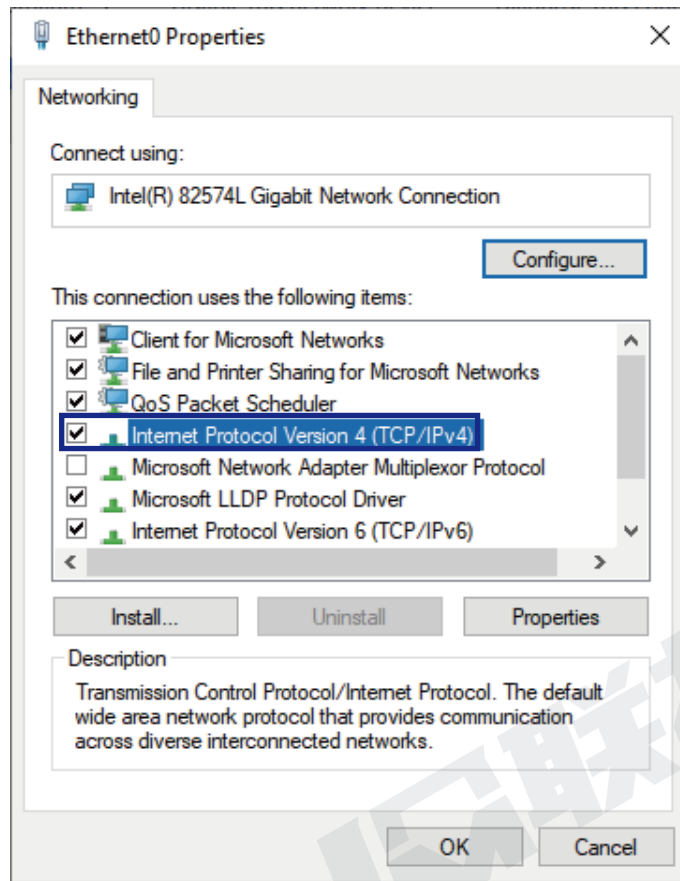

Figure 8-21
Step 3: Right click and hit “Properties” and it pop up the windows and double click “Internet Protocol Version 4 (TCP/IPv4)” as the Figure 8-21: